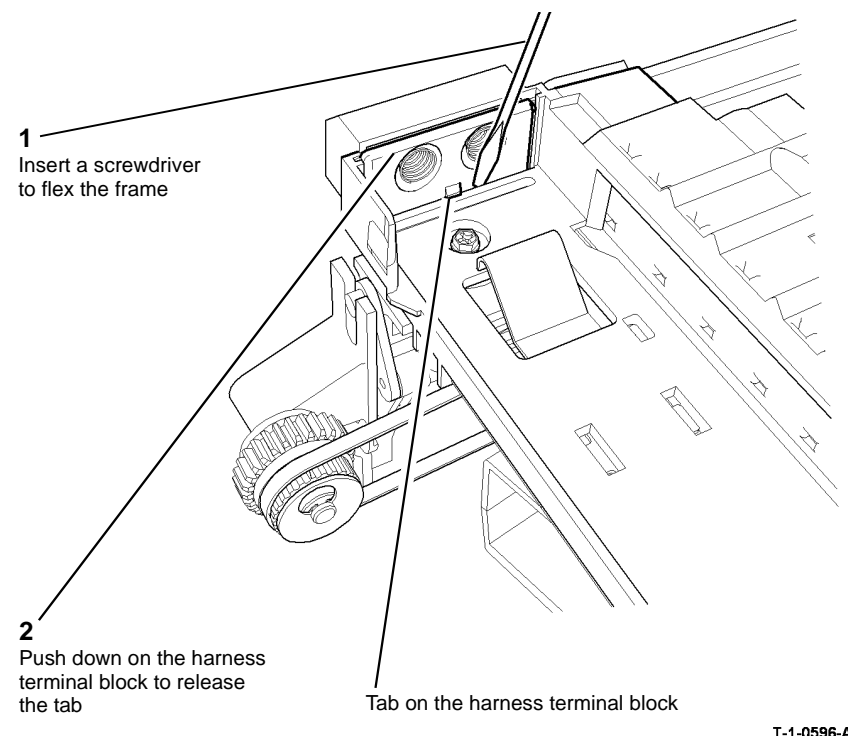

Figure 1 Transfer / detack harness
2. Remove the transfer / detack harness, Figure 1.